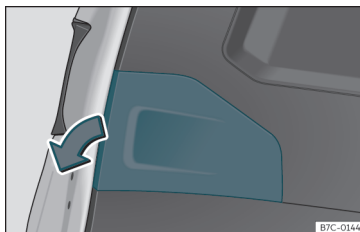

Fig. 93 Rear lid open: remove the lid.
1. Remove the rear lid cover in the direction indicated >>> **Fig. 93**.